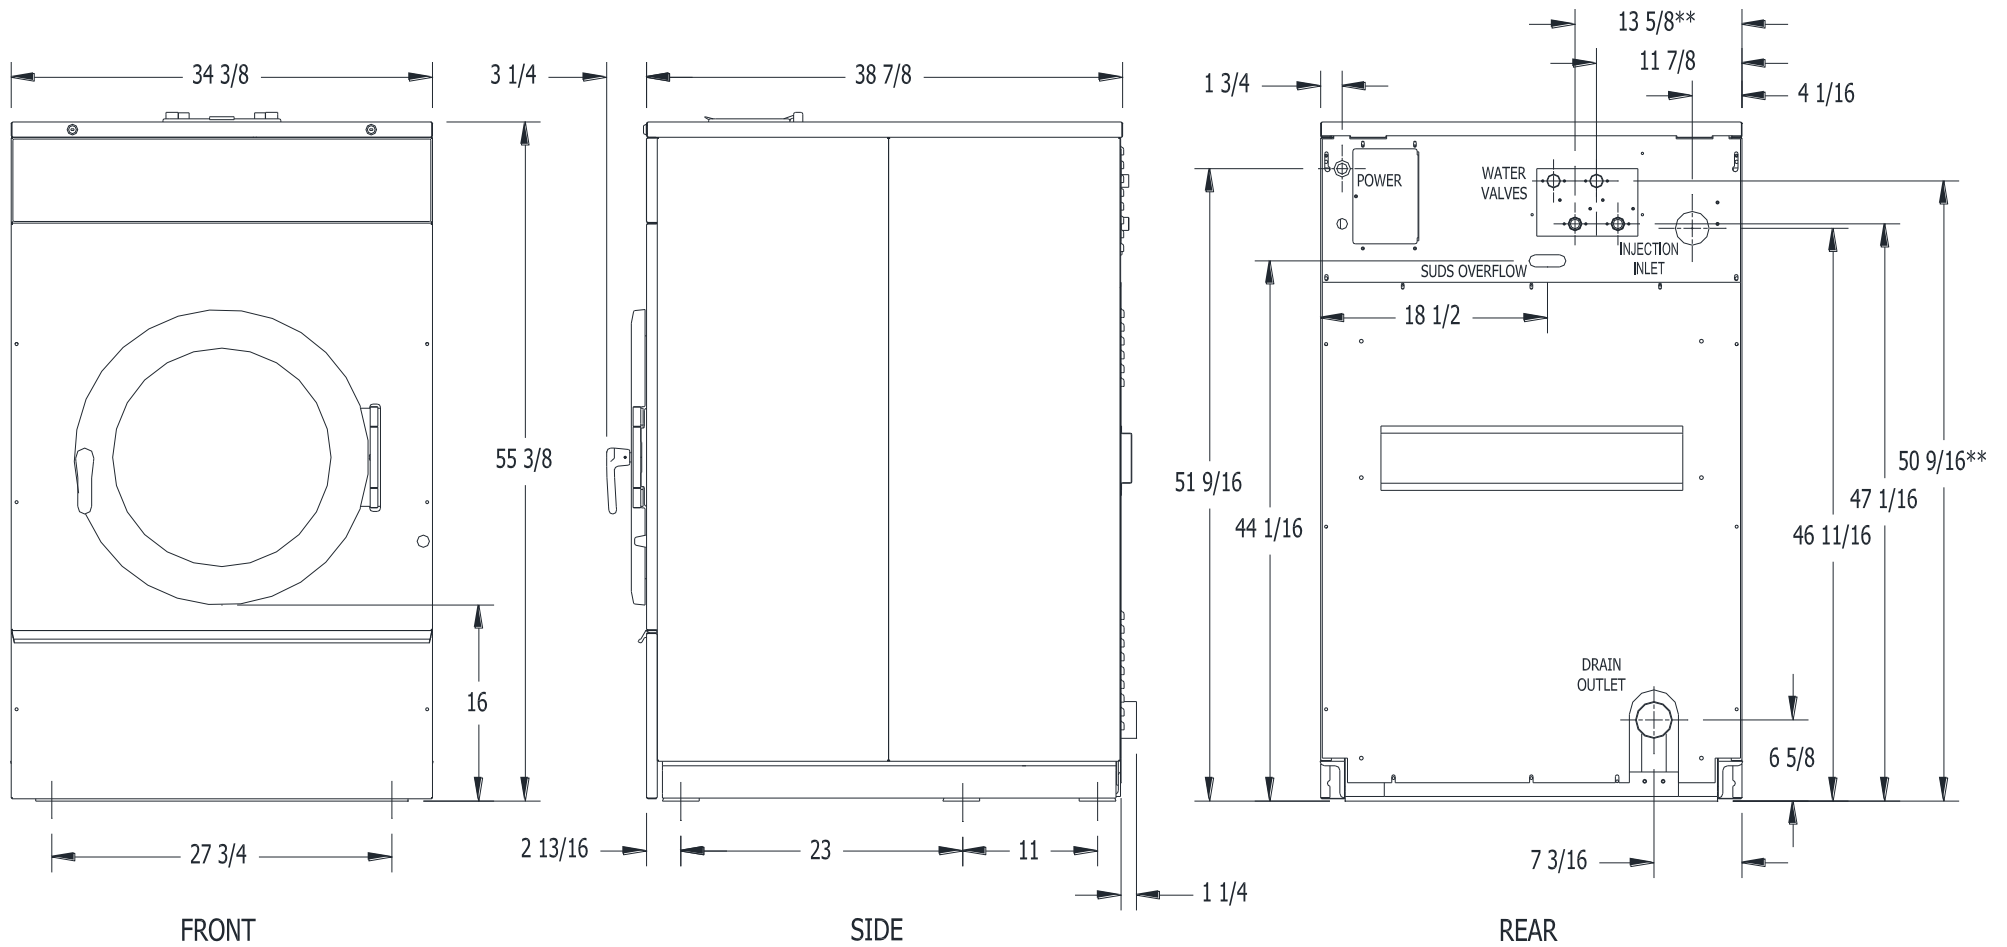

Figure 1-4: T-900/950 Industrial Washer Mounting Diagram
****NOTE:** Top water valves shown in Figure 1-4 are only on T-950 model.